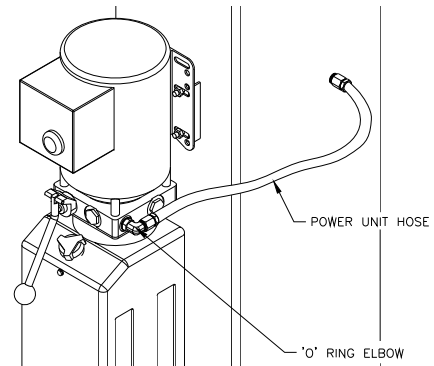

Fig 4-Power Unit Connection
11) Thread 9/16-18 O-ring elbow (*in hardware box*) into power unit. Attach free end of power unit hose to elbow. See **Fig 4**. **CAUTION** do not damage rubber O-ring.